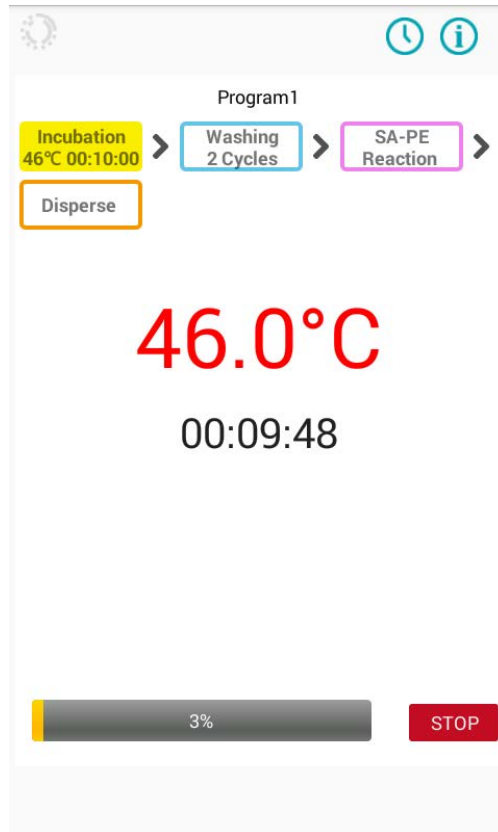

Fig. 23. Custom Program Process and Real-time Display
3. Once a custom program is started, the real-time operational status of the assay is displayed on the touchscreen until the run is completed (Fig. 23).